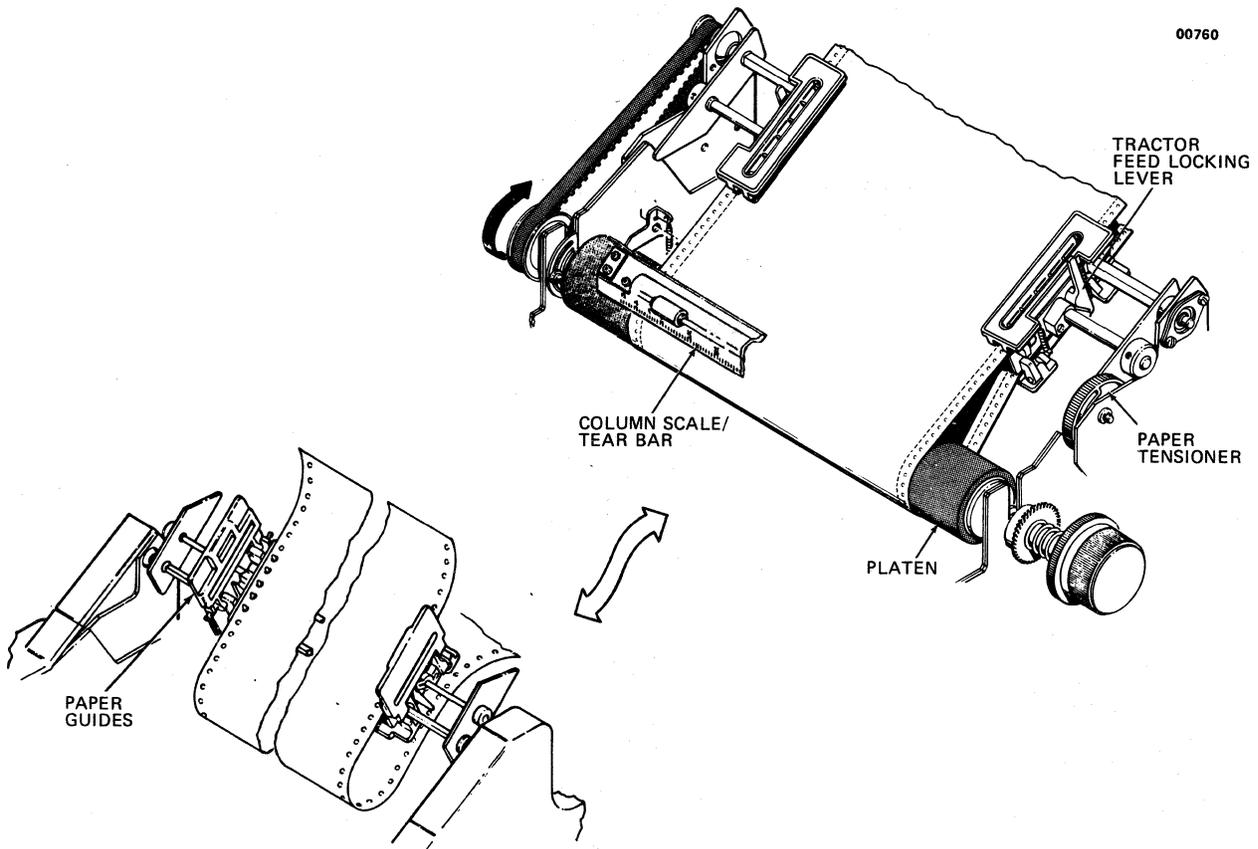

Figure 3-5 Loading Paper, Rear Tractor Feed
3. Release tractor feed locking levers, then tilt tractor feed unit back so that tractor feed pins face up (Figure 3-5).